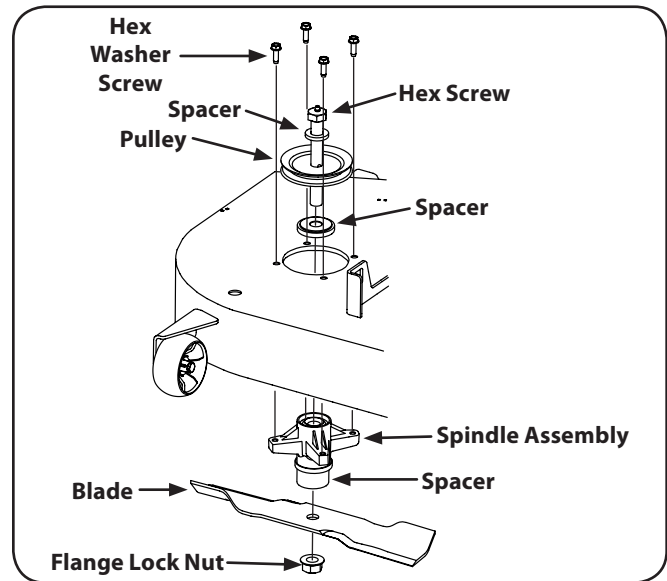

Figure 7-14
3. Use a $\frac{3}{4}$ " wrench to hold the hex nut on top of the spindle assembly when loosening the hex nut securing the blade. A block of wood may be placed between the deck housing and the cutting edge of the blade to help in breaking loose the hex nut securing the blade. See Figure 7-14.
4. Using a wrench or socket ratchet remove four hex washer screws. Remove the spindle assembly. See Figure 7-14.